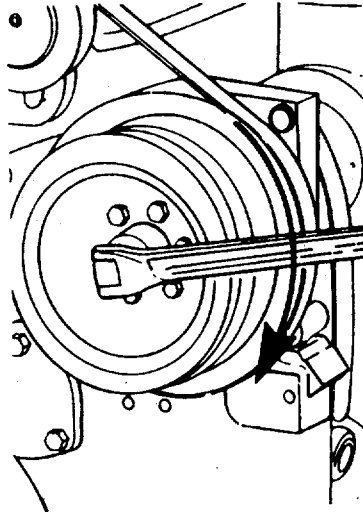

FIGURE 2-39. *Rotating Accessory Drive.*
- (3) Injector Adjustment, Dial Indicator Method (Non Top-Stop Injector Only).
- (a) Rotate the accessory drive until the "A" valve set mark on the accessory drive pulley is aligned with the pointer on the gear cover (FIGURE 2-39).